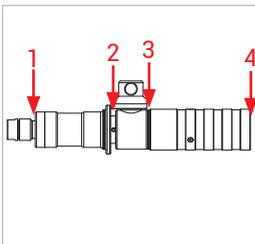

Figure 12
- ▶ Check the following measuring points (Figure 12):
- WEH® Service receptacle (1)
- guide bush and swivel joint (2)
- swivel joint and protective sleeve (3)
- fitting (4)